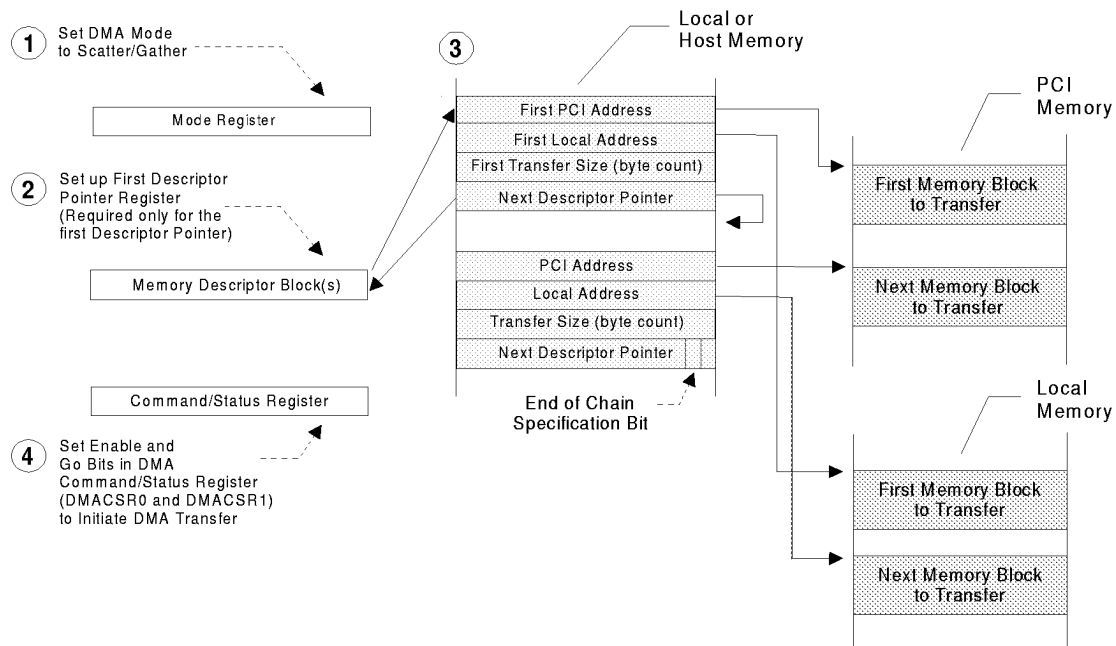

Figure 5-16. Scatter/Gather DMA Mode Descriptor Initialization [PCI SAC/DAC PCI Address (DMADAC0, DMADAC1) Register Dependent]
- DMADAC0 and/or DMADAC1 contain(s) a non-zero value. DMAMODE0[18] and/or DMAMODE1[18] is set to 0. The PCI 9054 performs a Single Address Cycle (SAC) four-Lword descriptor block load from PCI memory and DMA transfer with DAC on the PCI Bus. (Refer to Figure 5-16.)